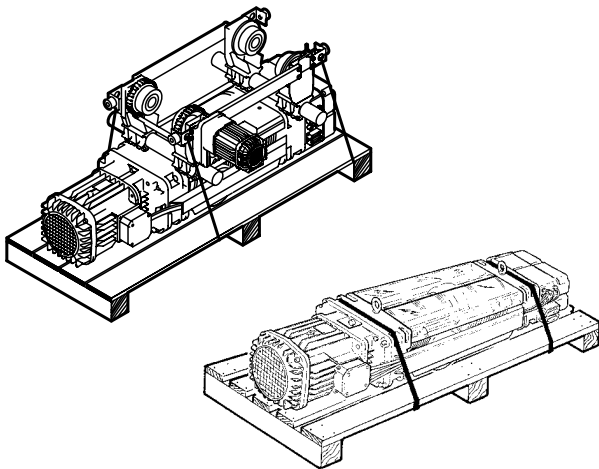

fig. 32
1. Where necessary, fit the hoist/trolley with any missing devices (controls). If the hoist/trolley has not been previously placed on the pallet, position it on the pallet and tie it firmly to ensure maximum stability (fig. 32).